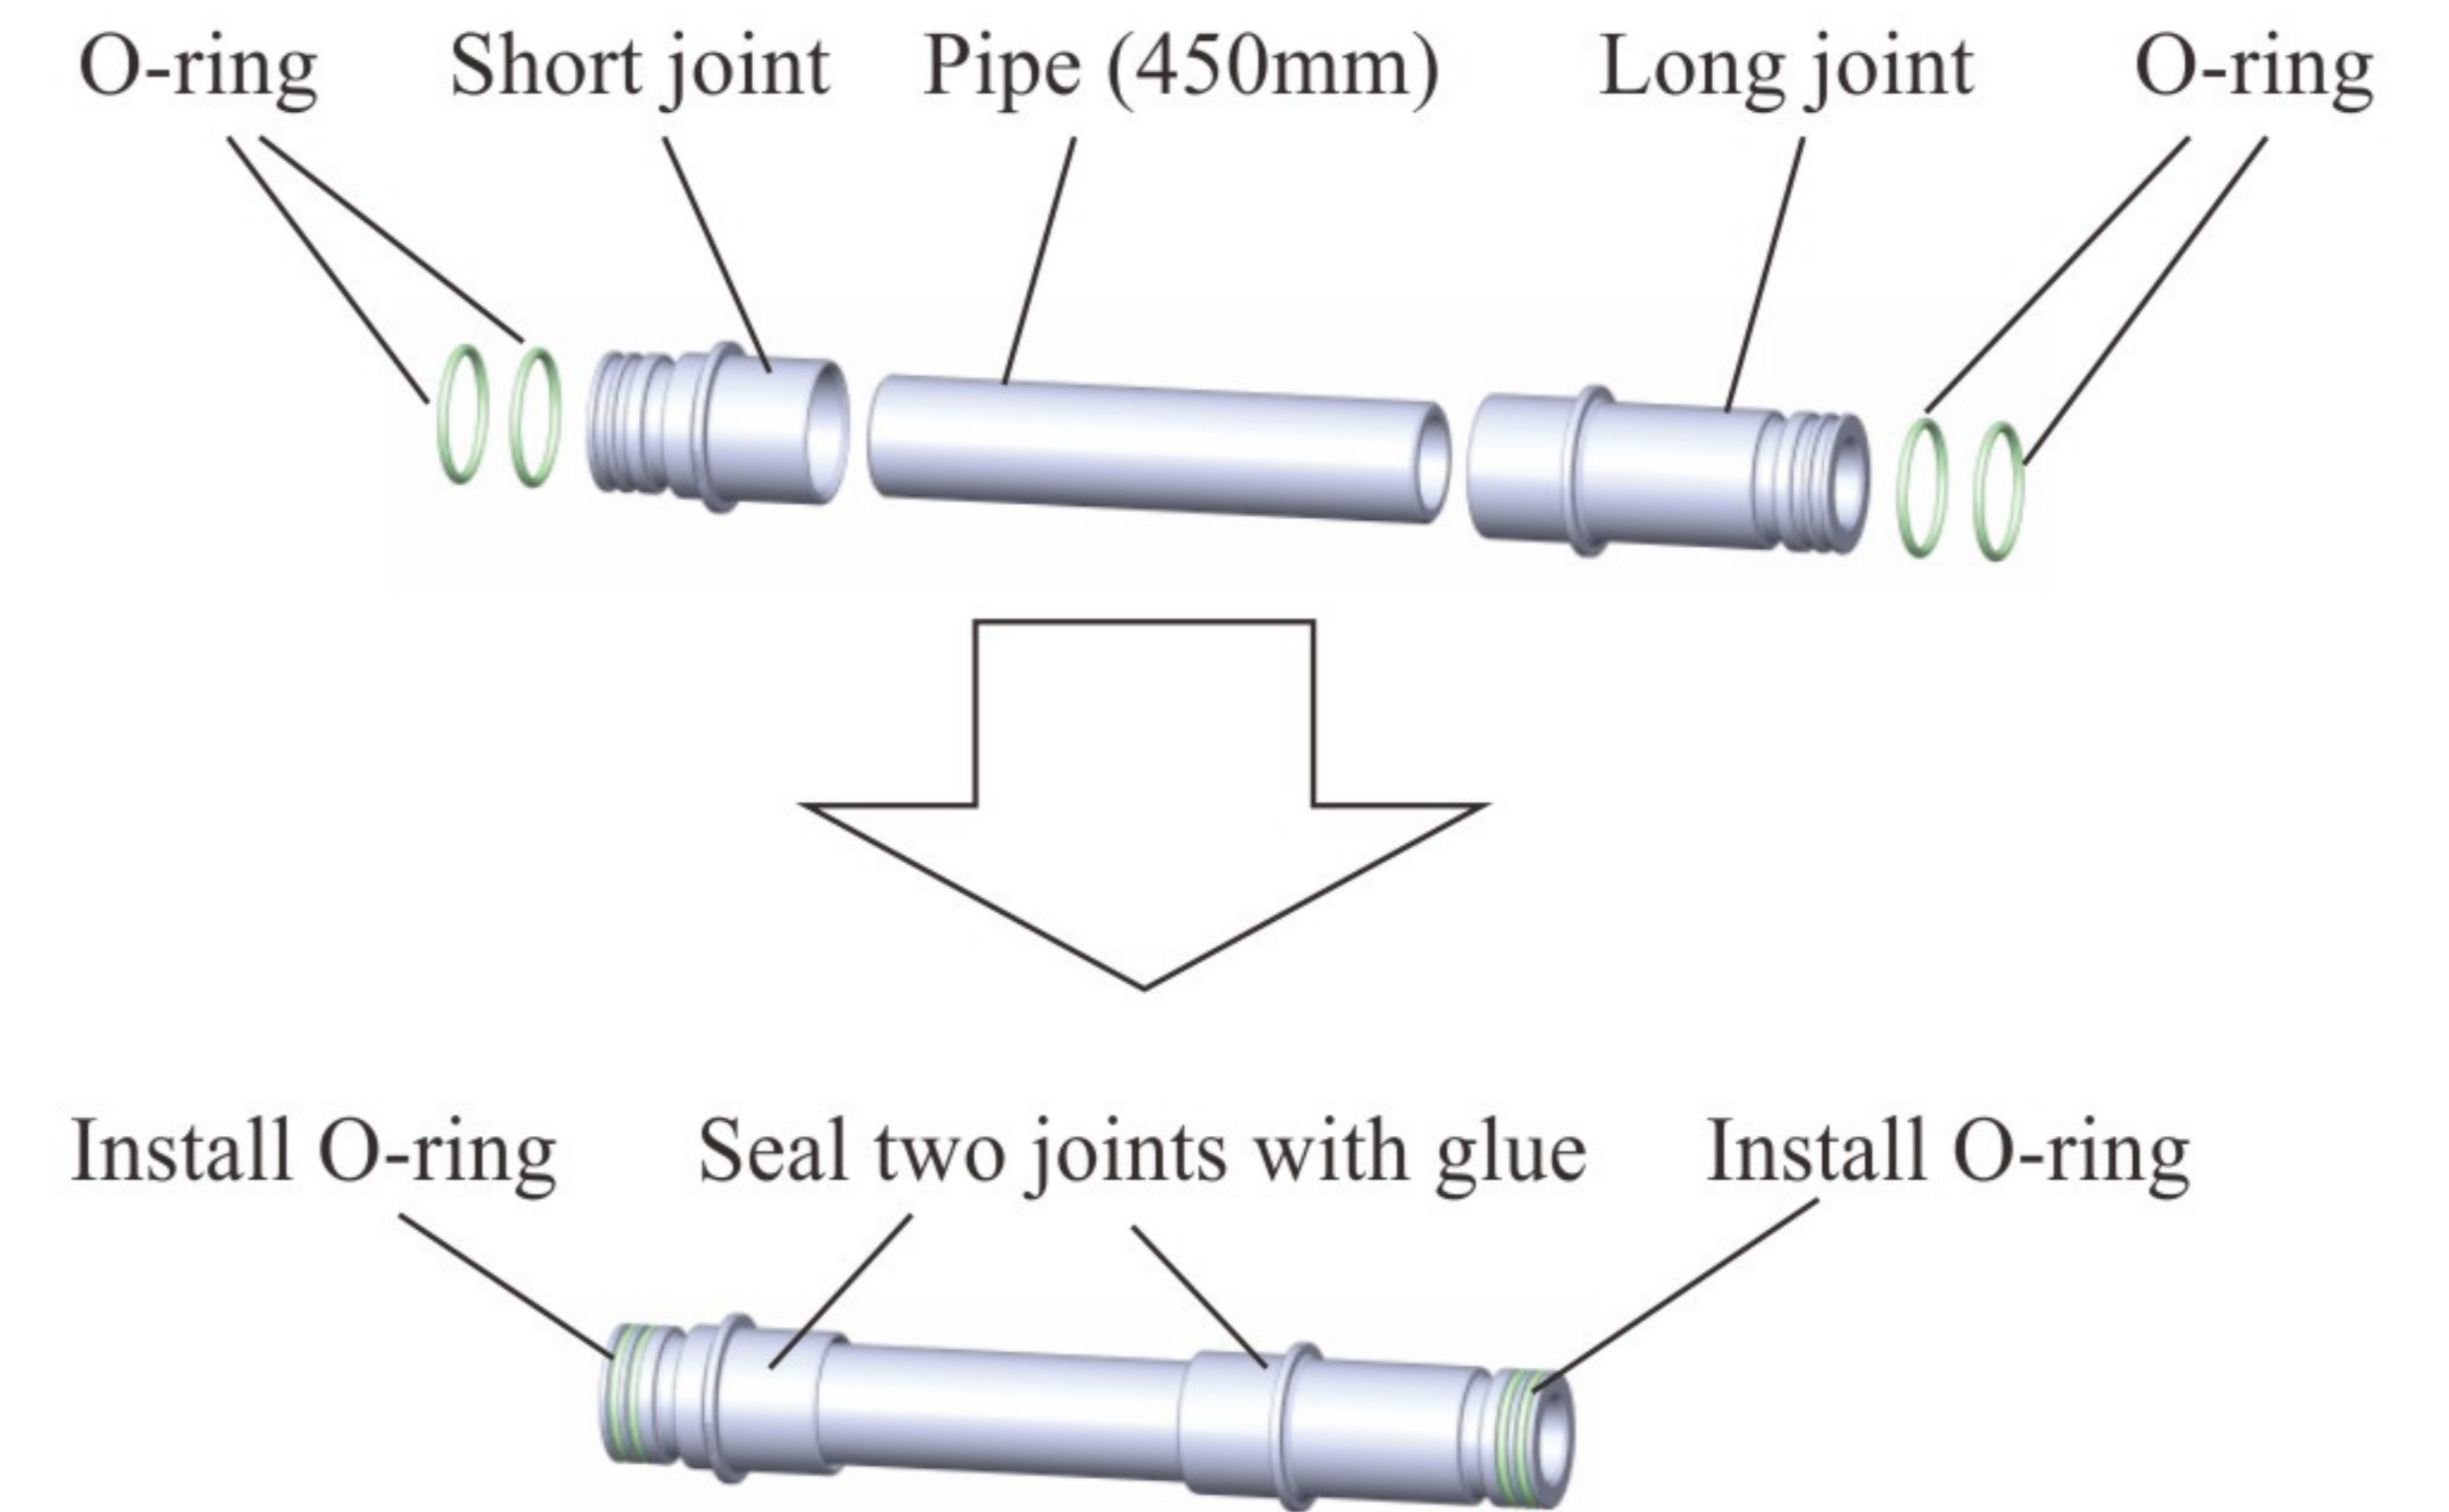

Figure 2-2-1
1. As Figure 2-2-1 shows, glue the pipe, short and long joints, and then install O-rings into two joints respectively (2 pieces in total).